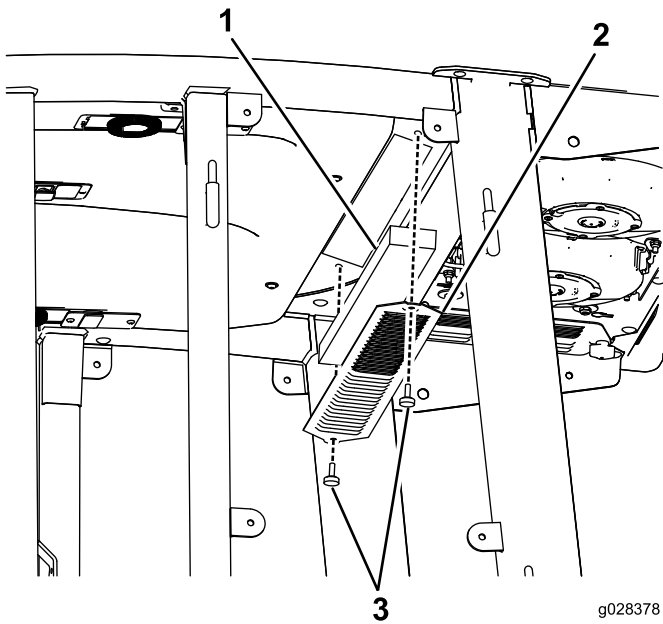
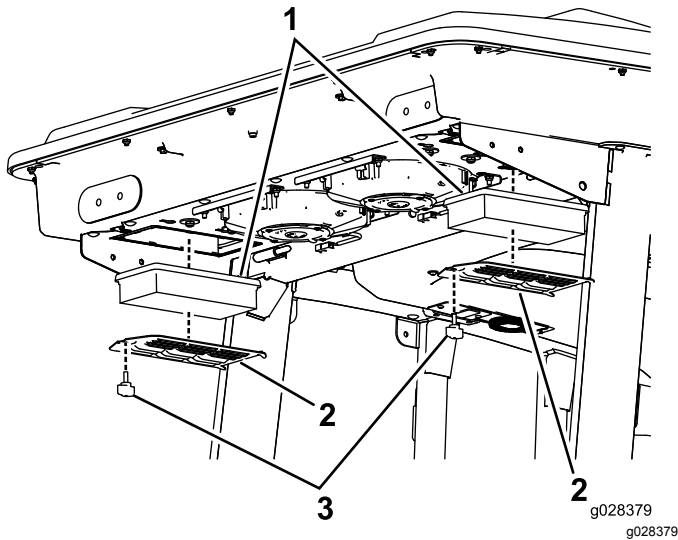

Figure 91
Figure 92
1. Remove the screws and grates from over both the in-cab and rear cab air filters (Figure 91 and Figure 92).